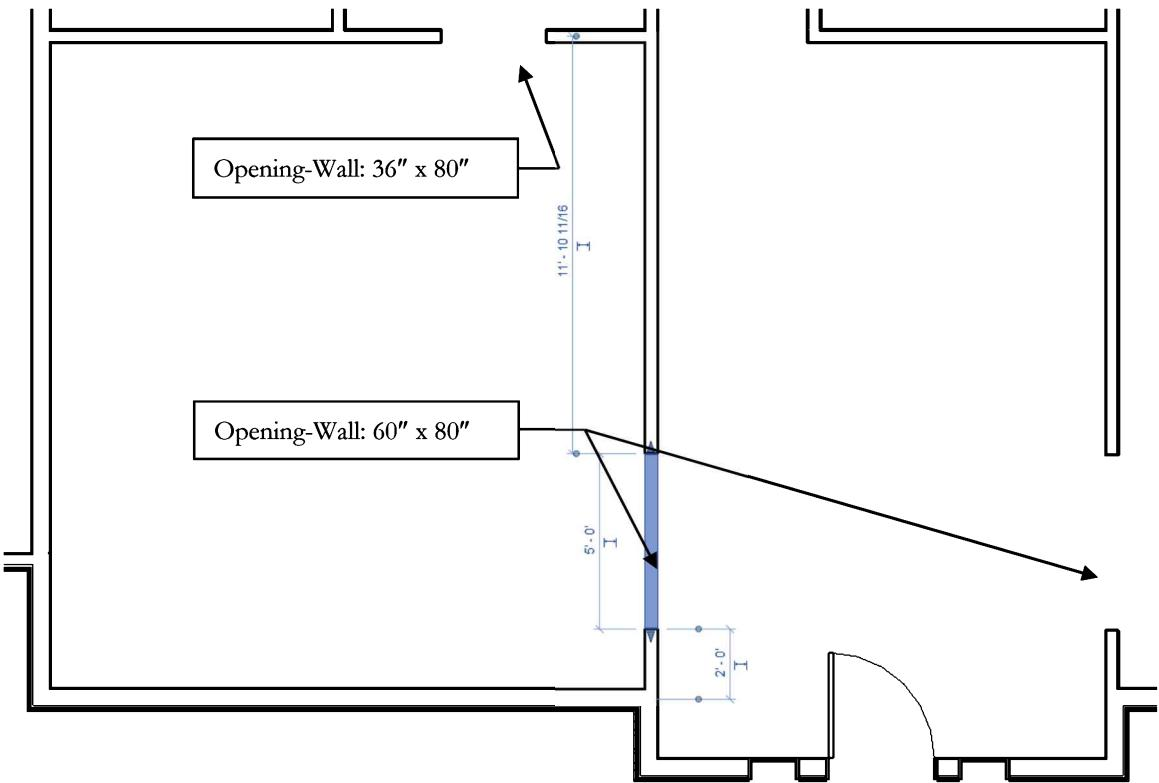

FIGURE 5-4.9 Openings placed in first floor plan
12. Place the three **openings** as shown in Figure 5-4.9.